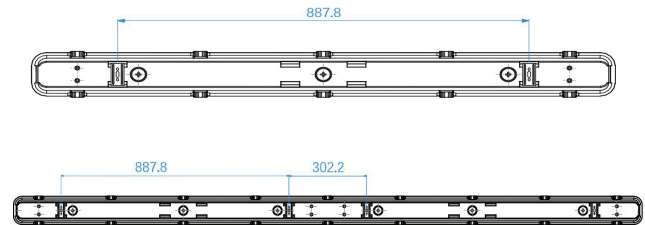
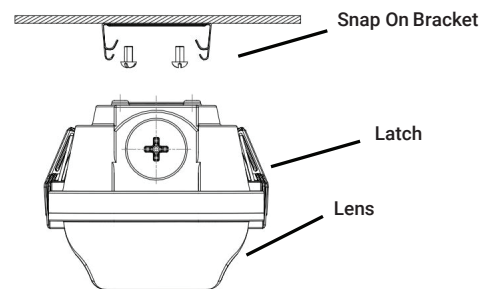

Fig. 1 4FT & 8FT
Fig. 2 SURFACE MOUNTING
1. Use appropriate mounting hardware (not supplied) to secure the Snap On Brackets to mounting surface. Refer to recommended Snap On Bracket in Fig.1 for 4FT & 8FT
**WARNING:** Mount Snap On Brackets symmetrical about the center as shown in Fig. 1. Snap On Brackets must be aligned with each other to secure Housing.
5. Feed supply wires through one of the Conduit Plugs (5) to make electrical splices. Cord-grips (2) are provided and can be used based on application.
8. Snap Housing on Snap on Brackets as shown in Fig. 2
1. Snap Housing on Snap On Brackets as shown in Fig 2.